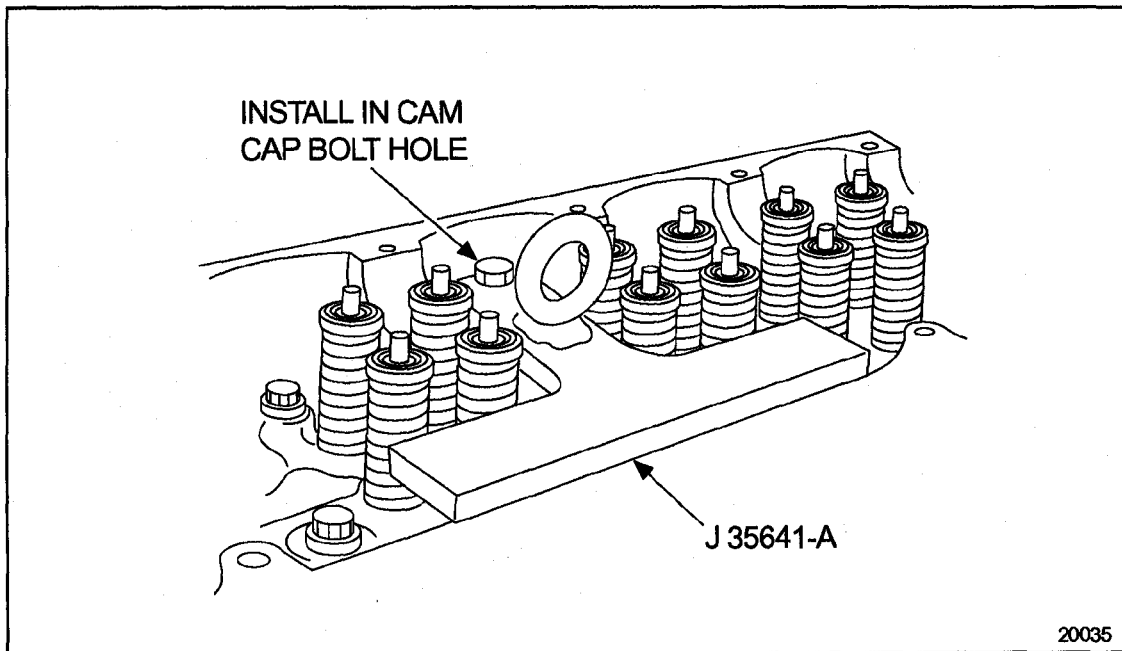

Figure 1-36 **Cylinder Head Lifter Bracket Removal**
22. Remove the head bolts, refer to section 1.2.2, and install the cylinder head lifter bracket, J 35641-A, using the bolt hole at the inboard center, No. 3 cam cap and two tapped Jake Brake[®] bolt holes. See Figure 1-36.